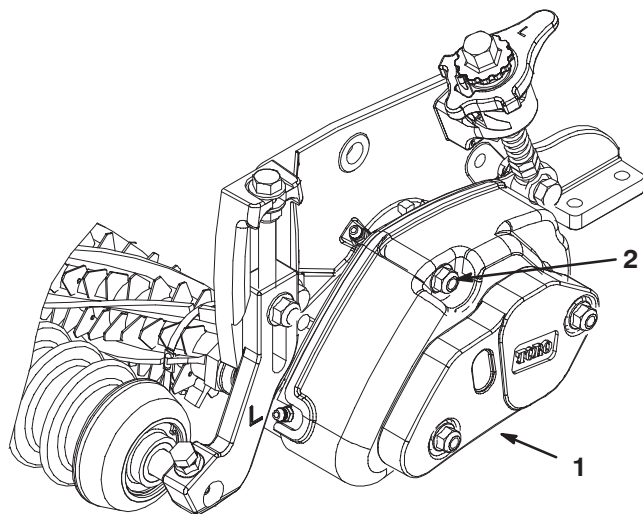

Figure 18
1. Remove the (2) groomer cover mounting nuts and remove the cover (Fig. 18).